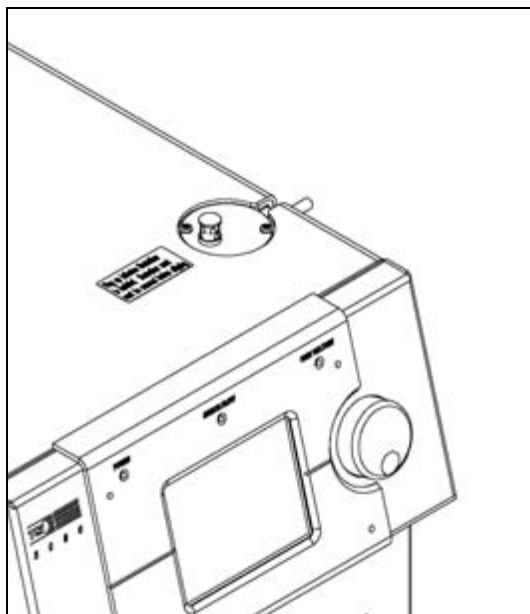

Figure 2-3
6. Replace the screws in the outlet block. The outlet block should be flush with the cabinet top and the pop-up flag indicating that the neutralizer is installed should be visible as shown in Figure 2-3.